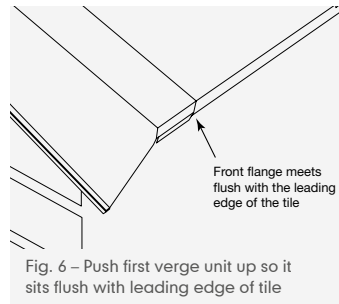

Fig. 6 – Push first verge unit up so it sits flush with leading edge of tile
- 6 Push the verge unit up so that the front flange meets flush with the leading edge of the tile (Fig. 6). Fix the verge unit to the tiling batten by means of mechanical engagement using the Marley batten end clip using the appropriate hole (nearest to the centre of the tiling batten).